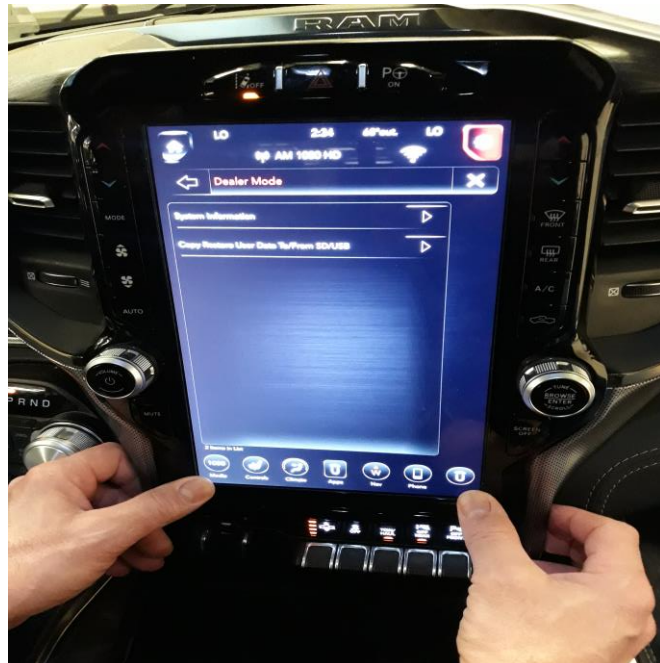

Figure 1 – Display Screen
1. Using the radio touch screen, simultaneously place both thumbs on the corners of the touch screen and hold for approximately 6 seconds or until the “Dealer Mode” screen is displayed (Figure 1).